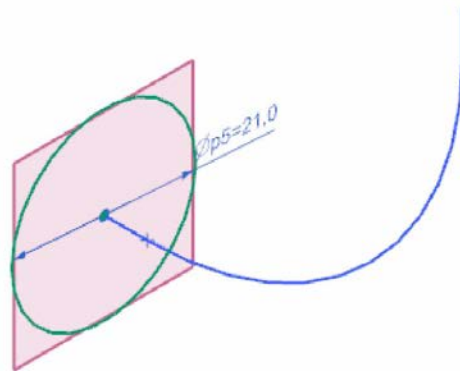

Figure 7-112 Sketch of the section
- Create a new datum plane at the start point of the guide curve and then draw the sketch of the section on this plane, refer to Figure 7-112.
3. Create a datum plane normal to the curve at its lower end and then draw the sketch of the section on this plane, refer to Figure 7-112.